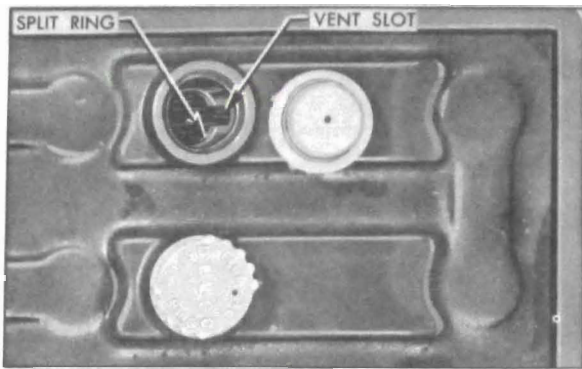

Figure 1-5—Battery Filler Well
12. *Battery.* Add distilled water to bring level to split ring at bottom of filler well. See figure 1-5. **WARNING:** Do not overfill. Clean top of battery; if wet with acid, neutralize with soda and wash clean.